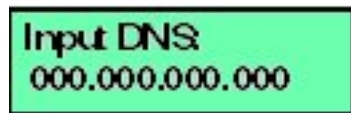

Figure 3.7. LCD Panel (Input DNS)
- Select **NO** by pressing **ENTER**. The following message displays (Figure 3-7).